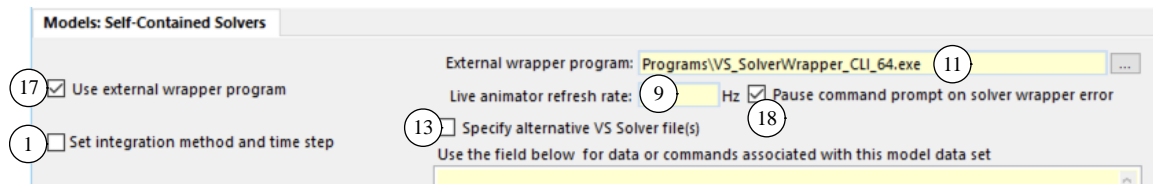

Figure 12. Extra checkbox when wrapper is VS\_SolverWrapper\_CLI.
There may be occasions to a VS Solver Wrapper, such as to run the 64-bit version of the VS Solver library (the Browser is a 32-bit program that can only load 32-bit DLL libraries directly. In these cases, the wrapper can be specified on this screen ⑪ (Figure 12). When a VS Solver Wrapper is